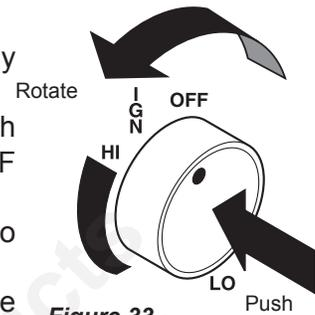

Figure 33 -
- From OFF position, push in gas control knob slightly and turn counterclockwise to the IGN position. Figure 33. Push in and hold control knob for 5 seconds.